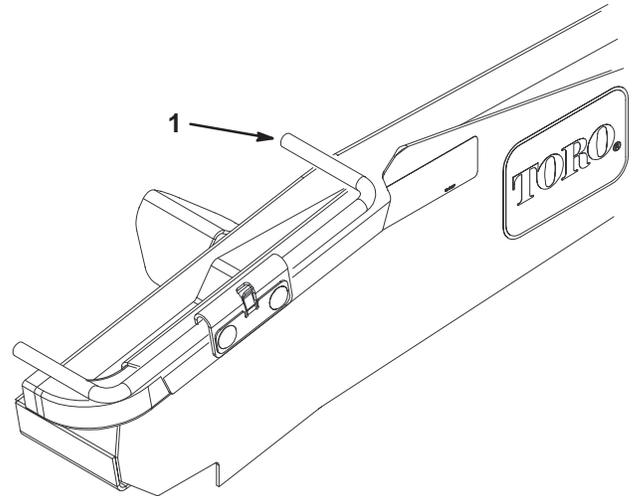

Figure 11
2. Pivot wheel rods upward (Fig. 11).
- On flat ramps, rotate wheel rods downward over greens mower transport wheels (Fig. 11).